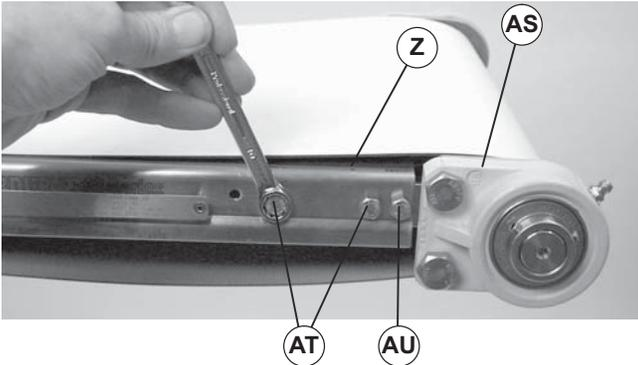
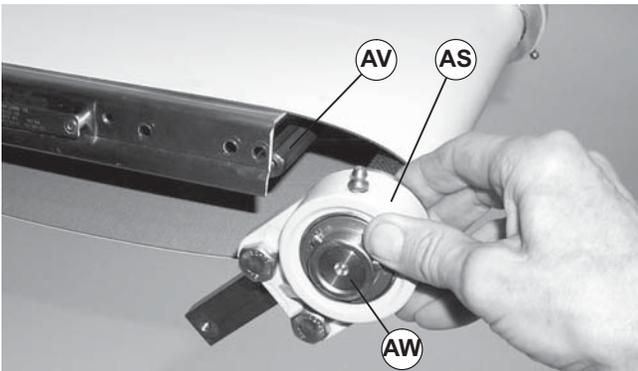
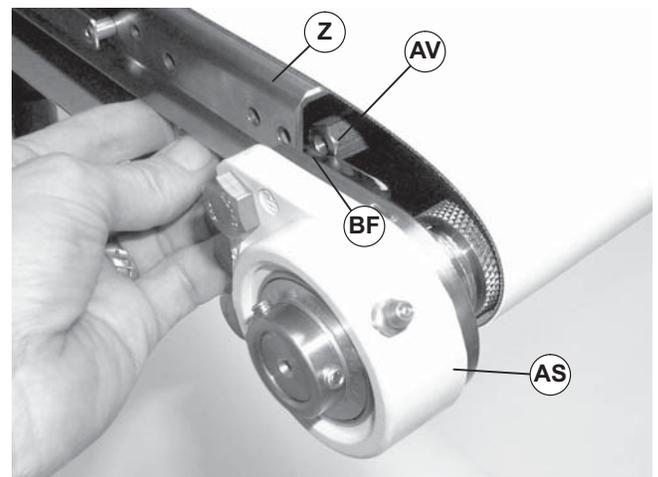

Figure 22
Figure 23
Figure 31
- Remove three hex head screws (Figure 22, item AT and AU) from bearing and head plate assembly (AS), cross support post (Figure 23, item AV) and conveyor (Z).
- Rotate bearing and head plate assembly (Figure 23, item AS) down and then off of cross support post (AV) and drive spindle (AW).
- Rotate bearing and head plate assembly (Figure 31, item AS) up between inside of conveyor (Z) and cross support post (AV). Make sure cross support post engages slot (BF) in head plate.
5. Install three hex head screws (Figure 22, item AT and AU) to secure bearing and head plate assembly (Figure 31, item AS) to cross support post (AV) and conveyor (Z).